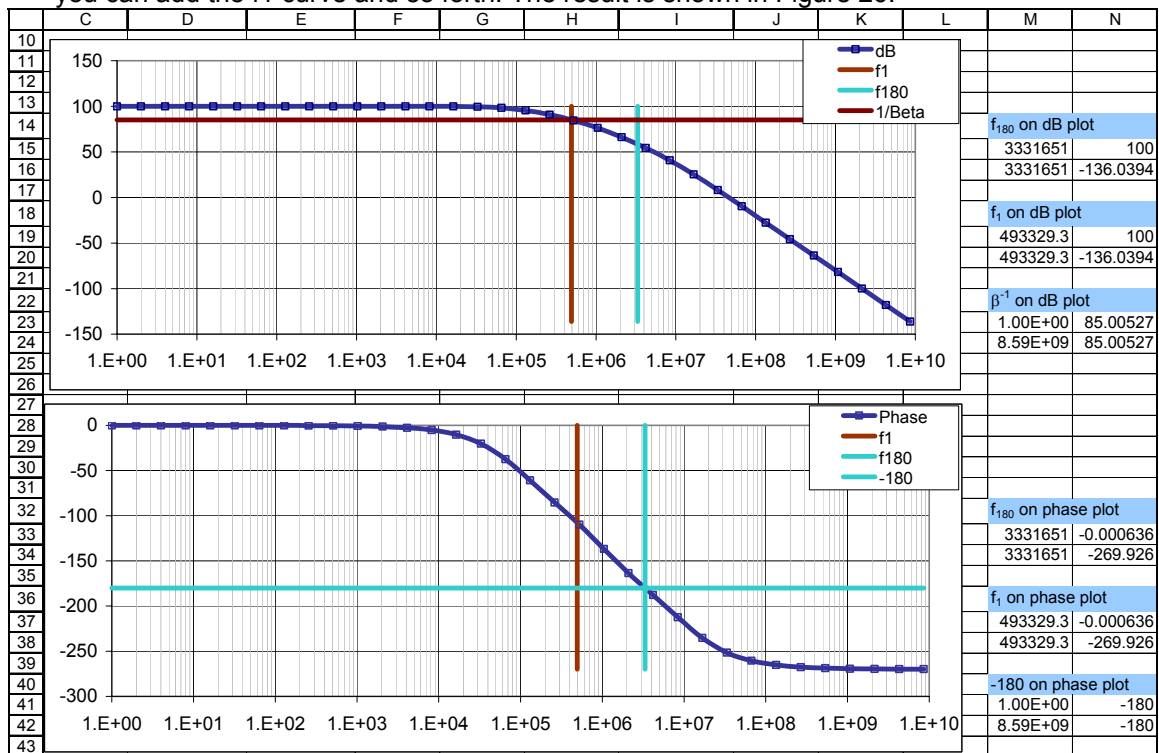
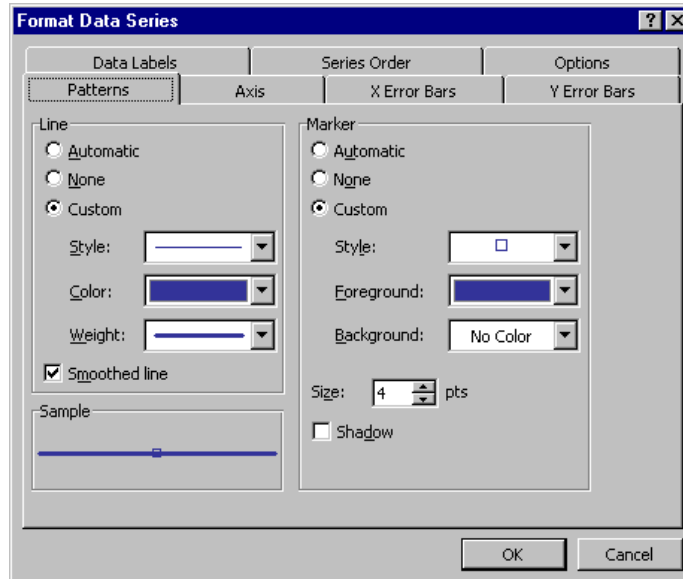

FIGURE 26:
FIGURE 27:
34. Now place the mouse inside the dB plot area and right click. Select SOURCE DATA. On the menu choose the SERIES tab. At the bottom of the SERIES box, click on the ADD button. In the NAME box type in f180. Put the cursor in the XVALUES box. Clear out anything in the box. With the cursor still in the box, move the mouse to select Cells M15 and M16. Move the cursor to the YVALUES box. Clear it out. With the cursor still in the box move the mouse to select Cells N15 and N16. Click OK on the menu. You now have the f180 curve plotted. In the same way you can add the f1 curve and so forth. The result is shown in Figure 26.
35. The Bode plots in Figure 26 have been changed to show the data points. To reformat the Bode curves, right click on the curves and select **FORMAT DATA SERIES** to obtain the menu of Figure 27. Make the **MARKER** selections indicated in the figure.